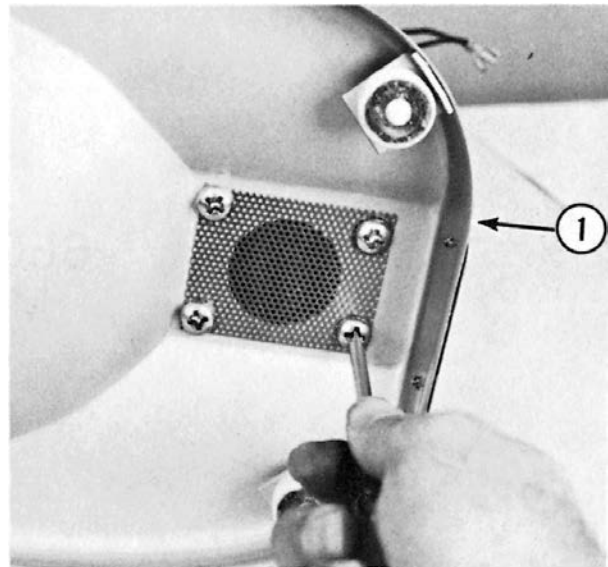

Fig. 4-4
- (1) Remove the base assembly (4 bolts) (1, Fig. 4-4).